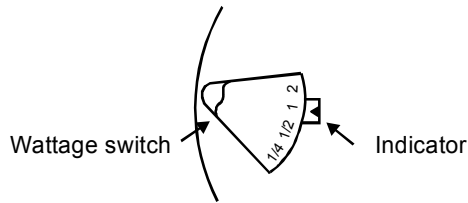

Figure 2: Wattage switch
3. Slide the wattage switch to the desired wattage tap (2 W, 1 W, 1/2 W, or 1/4 W) by aligning it with the indicator below the switch. See Figure 2.